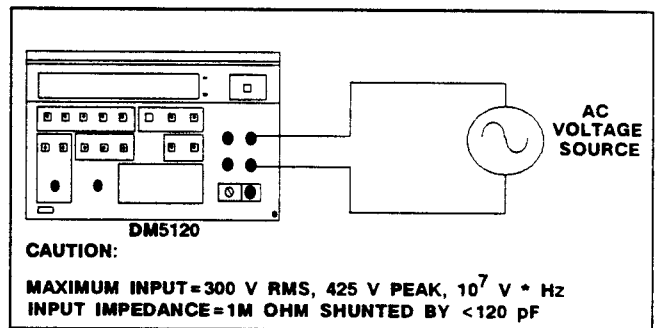

Fig. 2-8. TRMS AC Voltage Measurement.
3. Connect the signal to be measured to the selected input terminals as shown in Figure 2-8.